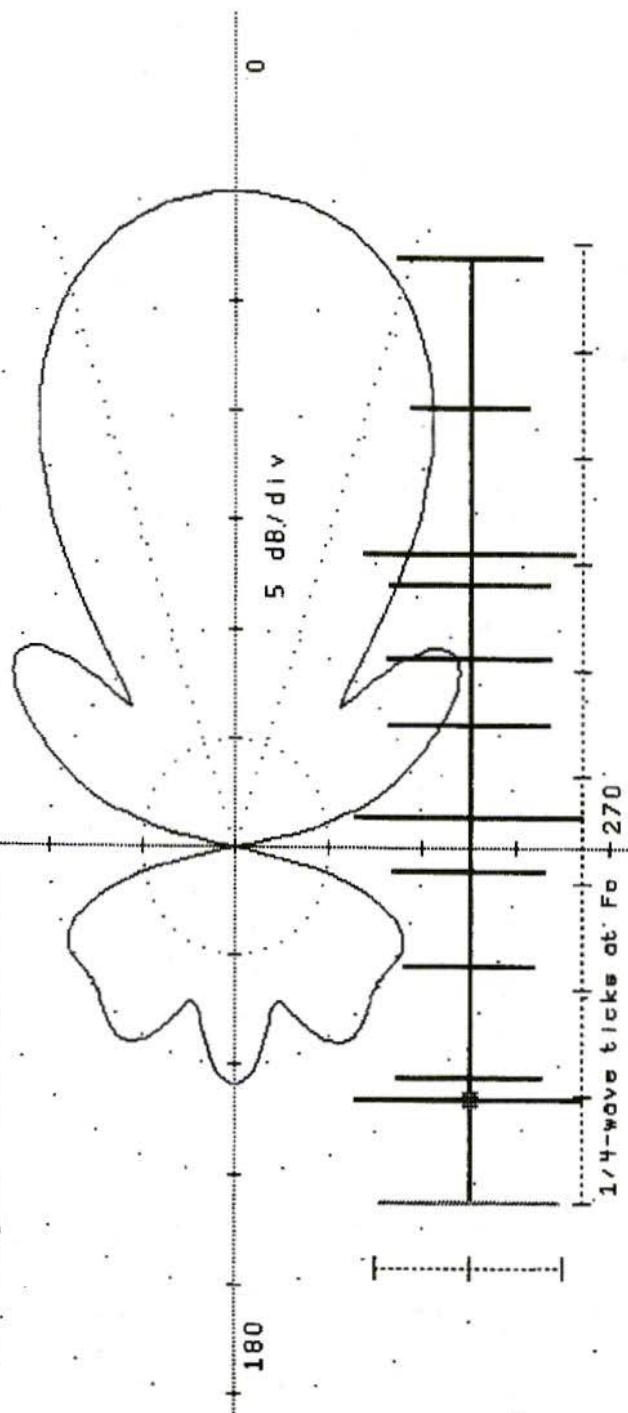

FIG.1: YG02 OUTPUT SCREEN
Fig.1 shows the YGO2 output screen, which plots the E-plane (azimuthal) radiation pattern and provides a scale representation of the array. The display is annotated with key performance data. The pattern is very clean, and its structure is typical of well-designed Yagis. One interesting aspect of this Yagi is its unusual geometry. Unlike standard designs (progressively shorter directors with increasing spacing away from the DE), the element lengths show no particular pattern, and some of them are quite out of the ordinary. The DE, for example, is the second longest
(12 dBi), a front-to-back ratio (FB) of 19dB, and an input resistance of  $38\Omega$  (reactance not specified). The 12-element Yagi in Fig.1 has the same boom length (2.21 waves), a gain of 11.53dBi, FB and front-to-rear (FR) ratios of 19.2dB, and it provides a nearly perfect SWR of 1.01 on  $300\Omega$  open wire line.